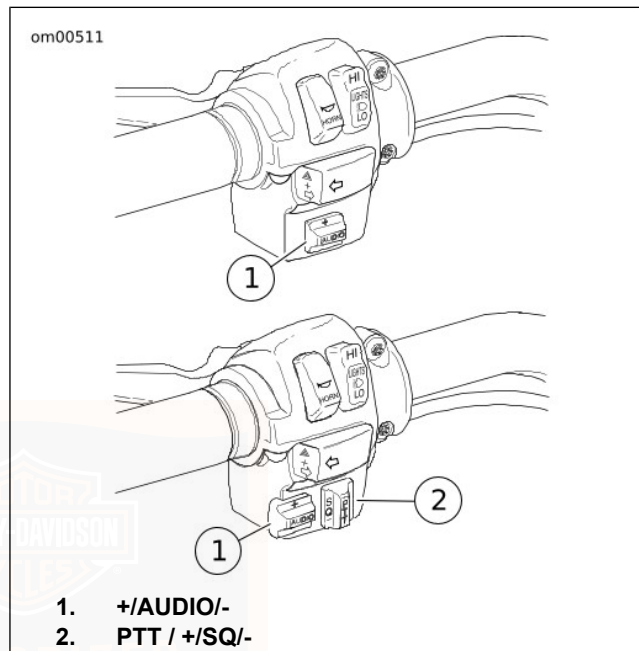

Figure 28. LH Audio Controls: FLHTC, FLHX Upper - FLHTCU, FLHTK, FLTRX Lower
2. **Adjust Volume:** See Figure 28. Adjust volume with the the **AUDIO** switch (1) on the left hand grip. Push **AUDIO** switch up (+) to raise the volume or down (-) to lower the volume.
3. **Manual Tuning:** Press and hold the **Up Arrow** or **Down Arrow** until the desired radio frequency is displayed in the LCD (8).
2. **Transmitting:** Press and hold either the rider PTT switch (Figure 28) or passenger PTT switch (Figure 35 to transmit. To end transmission, release **PTT** switch.
3. **Transmitting:** Press and hold either the rider PTT switch (Figure 28) or passenger PTT switch (Figure 35 to transmit. To end transmission, release **PTT** switch.
See Figure 28. Easy to operate while riding, audio controls are mounted on the left hand switch housing on the left handgrip.
AUDIO: See Figure 28. Press the **AUDIO** switch to access the Audio/Setup menu on the LCD. Press and release **AUDIO** or the press the soft key to toggle to the next displayed function in sequence from Bass, to Treble, to Fade, to Display, to Volume and then to to AVC.
See Figure 28. Push-To-Talk (**PTT**) and the squelch control switch (**+ /SQ/ -**) is located on the left handlebar switch assembly.